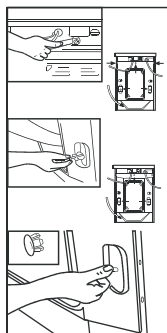

Fig 2
- Remove the packing screws as shown in figure 2. The packing bolts protect the appliance from shock during transportation. The steps below should be followed before using the appliance,